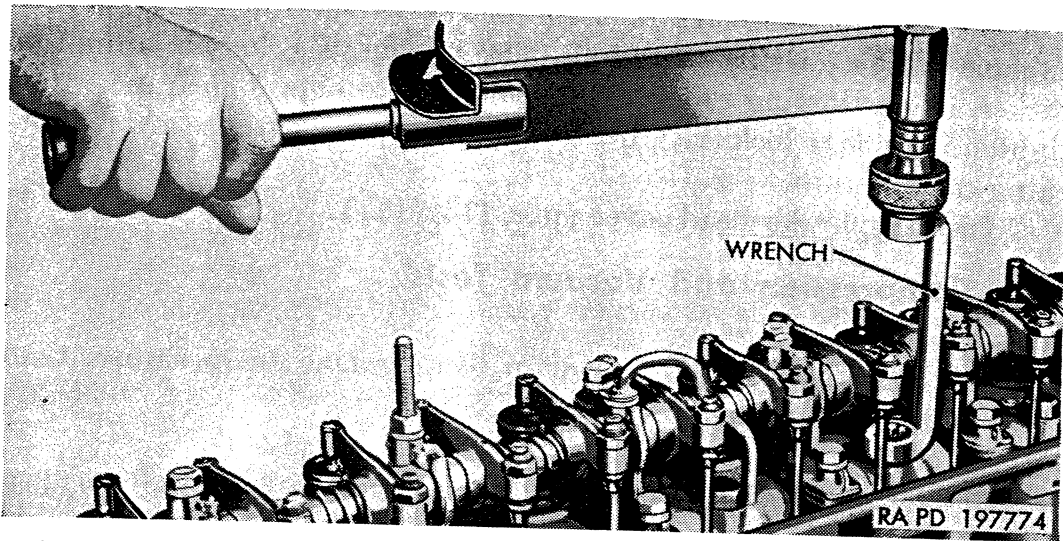

Figure 94. Use of torque wrench and wrench 41-W-2964-700 to tighten cylinder head bolts.
*c.* Check all cylinder head bolts, using wrench 41-W-2964-700 with torque wrench (fig. 94). Tighten in sequence indicated in figure 102.